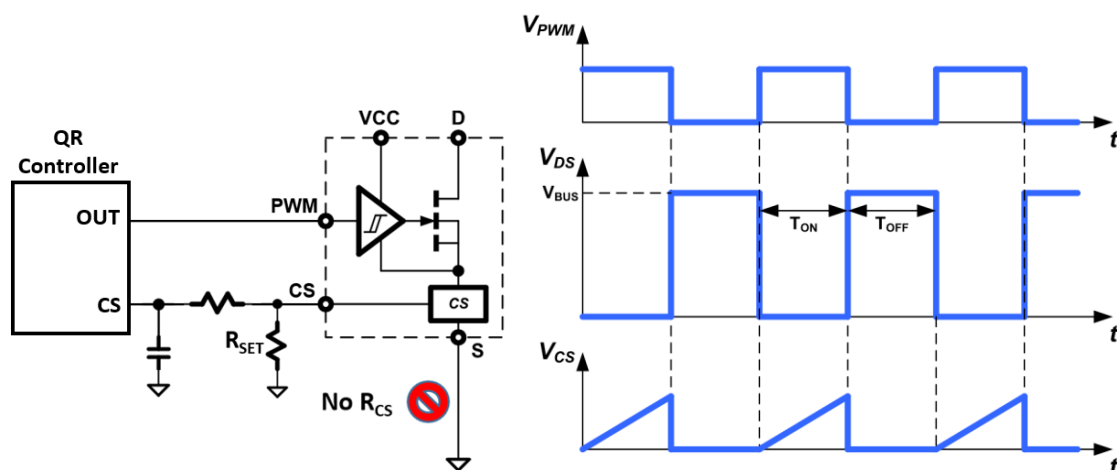

Figure 22. Current sensing circuit and timing diagram
For many applications it is necessary to sense the cycle-by-cycle current flowing through the power FET. Existing current sensing solutions include placing a current sensing resistor in between the source of the power FET and PGND. This resistor method increases system conduction power losses, creates a hotspot on the PCB, and lowers overall system efficiency. To eliminate this external resistor and hotspot, and increase system efficiency, this IC includes GaN technology for integrated and accurate loss-less current sensing. The current flowing through the internal GaN power FET is sensed internally and then converted to a current at the current sensing output pin (CS). An external resistor (R_{SET}) is connected from the CS pin to the GND pin and is used to set the amplitude of the CS pin voltage signal (Figure 22). This allows for the CS pin signal to be programmed to work with different controllers with different current sensing input thresholds.